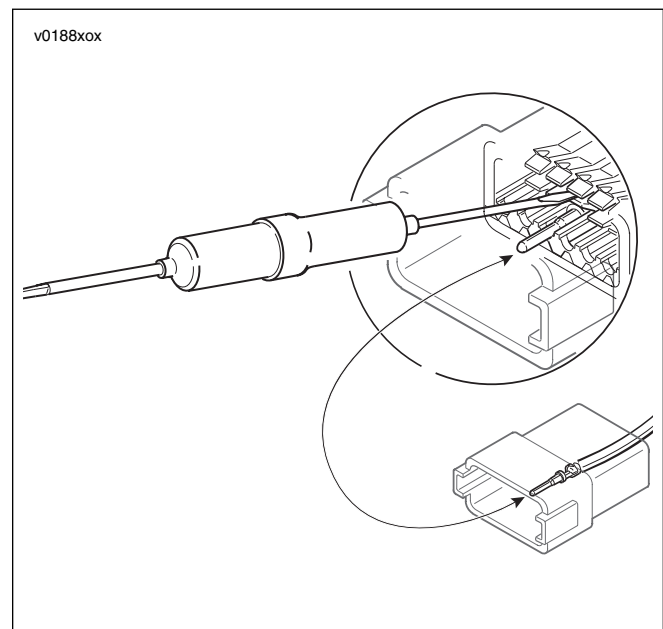

Figure 5-7. Depress Latches/Back Out Terminals
2. See Figure 5-7. Gently depress terminal latches inside socket housing and back out sockets through holes in rear wire seal.